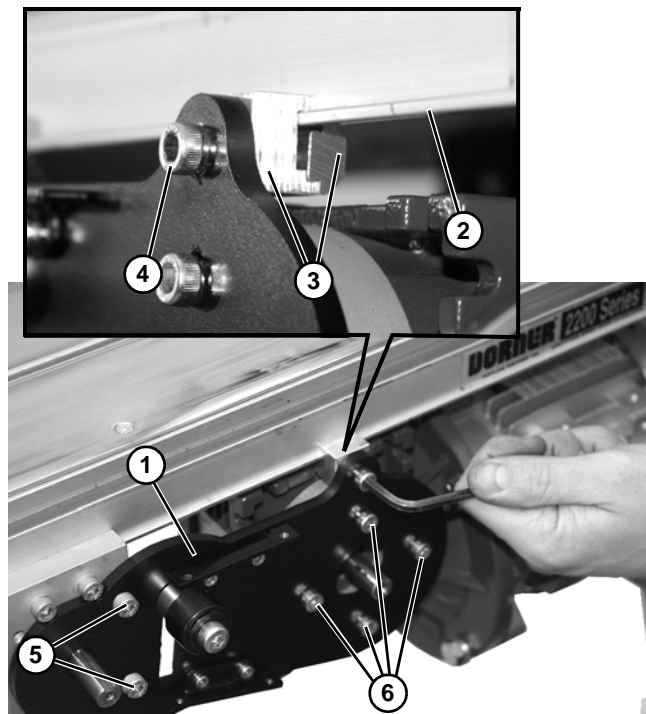

Figure 3
2. Install gearmotor and plate (Figure 3, item 1) onto conveyor frame channel (Figure 3, item 2) with retaining clip assembly (Figure 3, item 3) and socket head screw (Figure 3, item 4).w Secure bottom with two socket head screws (Figure 3, item 5). Do not tighten screws at this time.
3. If required, change gearmotor position by removing four (4) screws (Figure 3, item 6). Rotate gearmotor to other position and replace screws. Tighten to 103 in-lb (12 Nm).